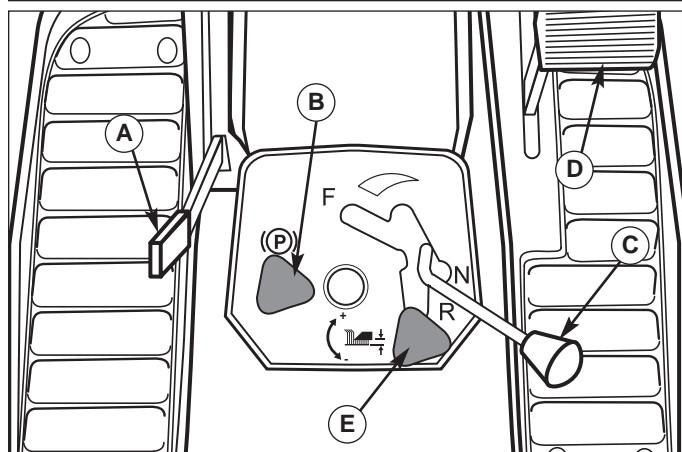

Figure 27. Controls
- Use the Dial-A-Cut™ Control (E, Figure 27) and place mower in mid-cut position by aligning front edge of mower lift lever (A) with number 2 or 3 on quadrant scale. Make sure mower lift lever is in down position.